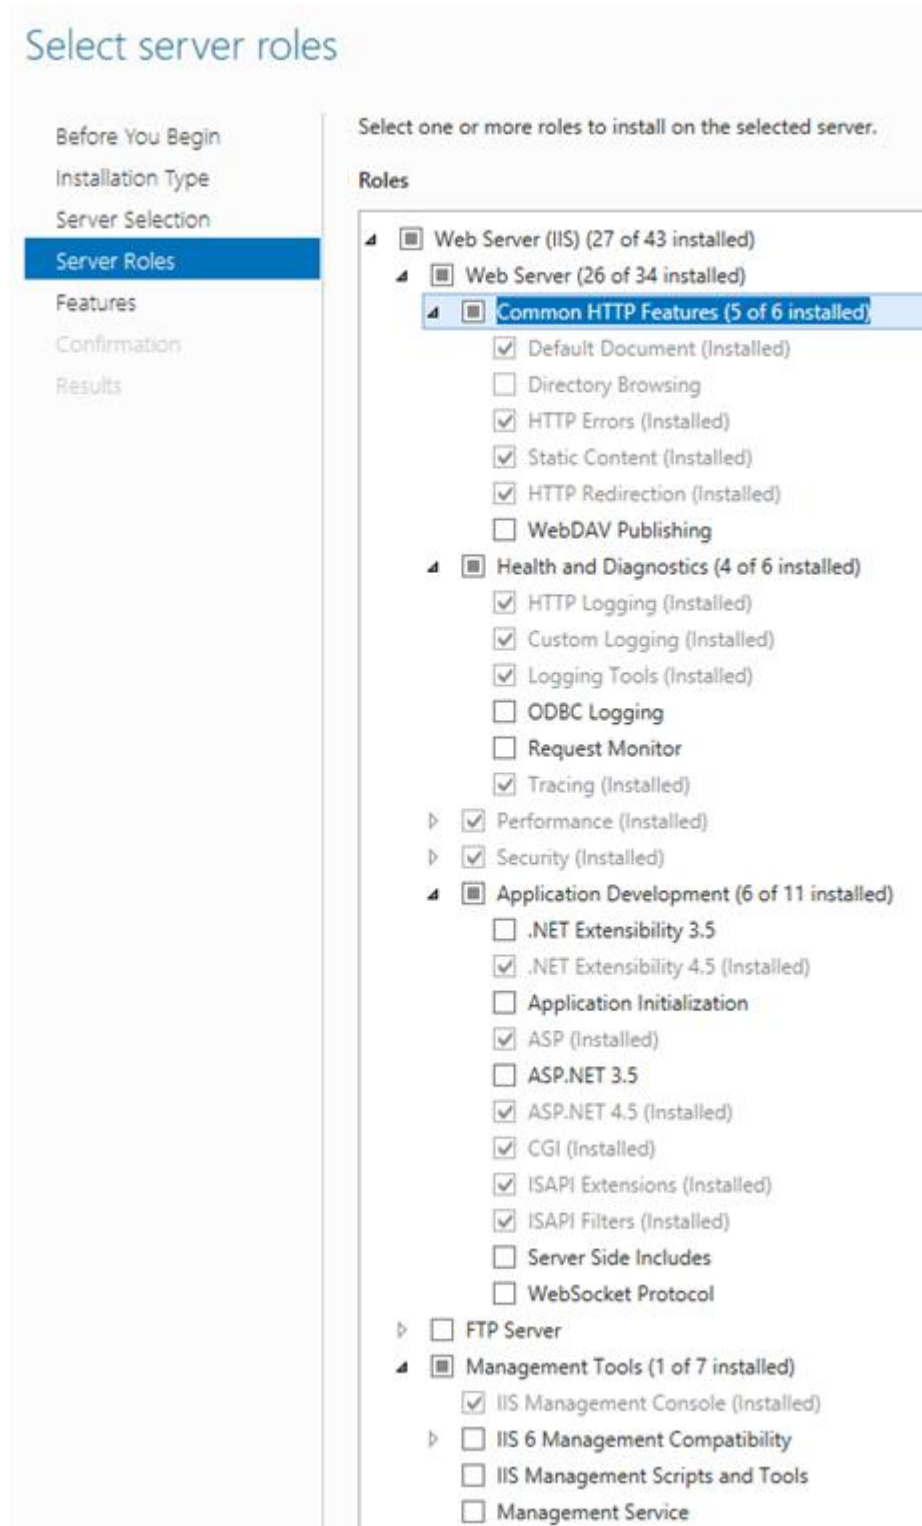

Fig. 4 - IIS setting in a Windows Server system
**Note:** Some PCs do not allow automatic setup using the **Setup IIS** button. This can be identified so that after clicking the button, the progress bar does not reach 100 %. In this case, please set the IIS manually in *Windows Features, Turn Windows features on and off*. Set the checkbox as shown at Fig. 3 (and Fig. 4 for Windows Server installation).